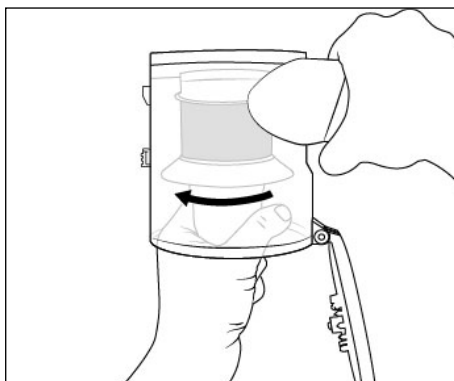

Fig. 19
- 5) Hold the stainless steel filter **11** from below and turn it clockwise until it comes free of the dust container **7** and can be pulled out (see Fig. 19).